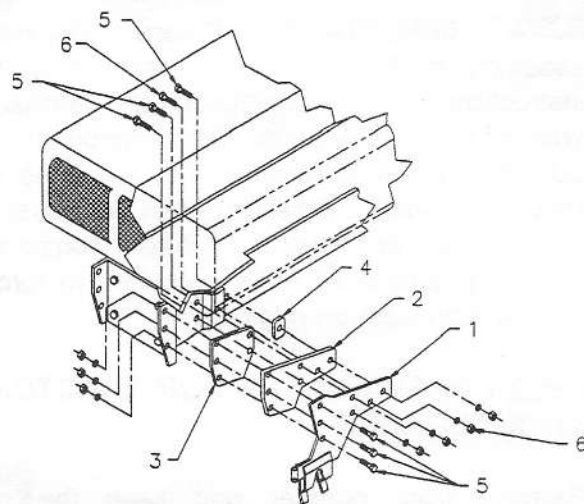
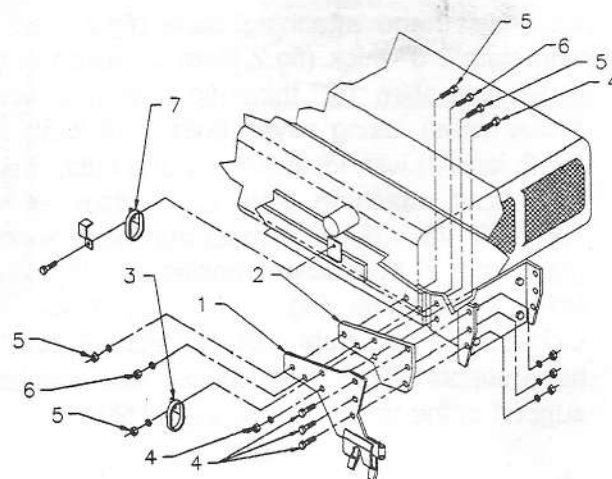

FIGURE 4
FIGURE 5
Install left hand attaching plate (fig.4, item 1) with shim 1/2" thick (fig.4, item 2), shim 3/8" thick (fig.4, item 3, five drilled holes) and small shim 3/8" thick (fig.4, item 4, one drilled hole), using six bolts M14 X 60 mm (fig.4, item 5) with lockwashers and nuts, one bolt M16 X 60 mm (fig.4, item 6) with lockwashers and nuts. Do not tighten yet. Install right attaching plate (fig.5, item 1) with shim 1/2" thick (fig.5, item 2) and hose support (fig.5, item 3) at indicated positions using four bolts M14 X 50 mm (fig.5, item 4) with lockwashers and nuts, and two bolt M14 X 60 mm (fig.5, item 5) with lockwashes and nut, one bolt M16 X 60 mm (fig.5, item 6) with lockwasher and nut. Do not tighten yet. For hose support (fig.5, item 7) use bolt and hose support of the tractor, under the oil filter.
NOTE : fig.4, item 4 is only required on early production L3600 and L4200 tractor.